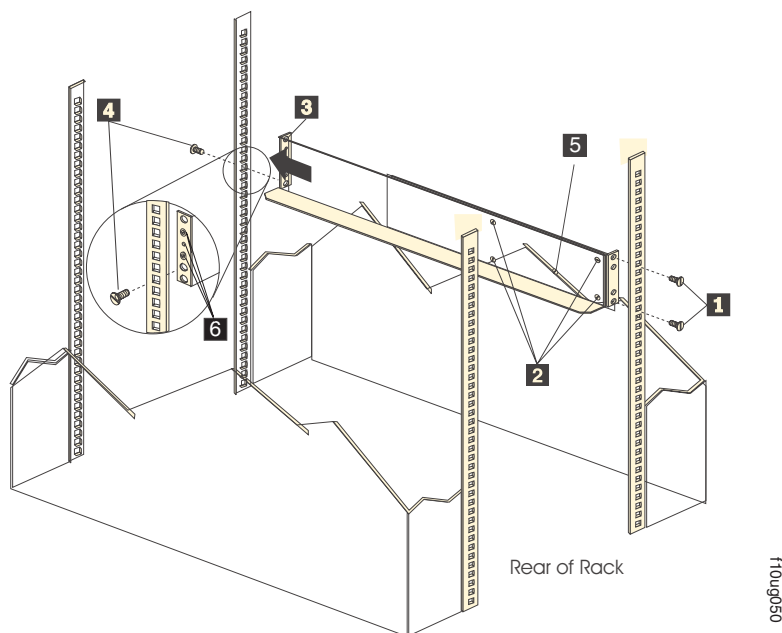

Figure 11. Installing the support rails
Note: Refer to Figure 11 on page 26 while performing these steps.
Note: The support rails are not marked as Left or Right. However, each rail can be correctly mounted on only one side of the rack cabinet. The rails should be mounted with the alignment pins at the front of the rack cabinet. Figure 11 shows the installation of the left support rail.
- c. From the back of the rack cabinet, insert the two 6/32 in. screws (**5** in Figure 11 on page 26), one on each side, in the holes located on the tab on each side of the unit. Tighten the screws.